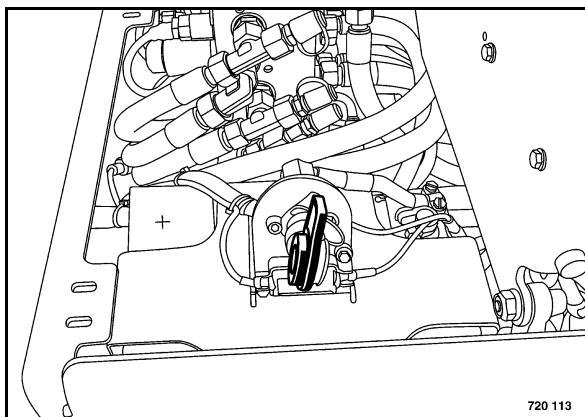

Fig. 28
- Switch on the main battery switch (Fig. 28).